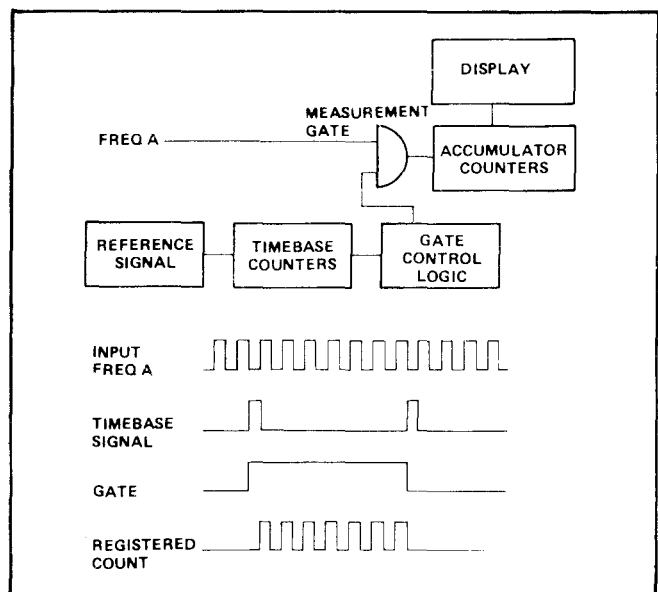

Figure 1.5 - Frequency A
1.3.5.1 During direct frequency measurements, the counter compares the unknown frequency against the known reference frequency (figure 1.5).